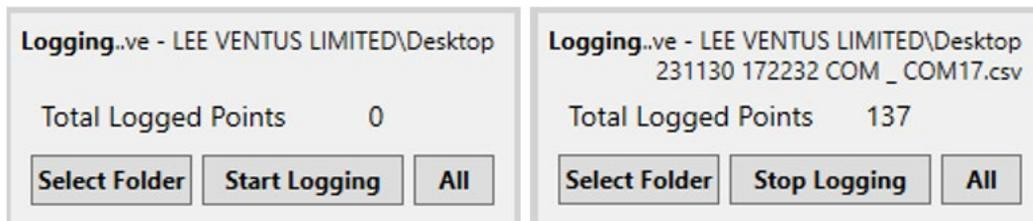

Figure 66. Data logging interface when target folder is selected (left). Data logging interface while data logging is active (right).
- Once the folder is selected the interface will indicate the new location as shown in Figure 66. When the logging is started the app will automatically create a .CSV log file in the target folder.
- Click the Start Logging button to initiate the logging. The interface shows the name of the created file and the number of logged points going up as shown in Figure 66. Once sufficient data is obtained click the Stop Logging data.